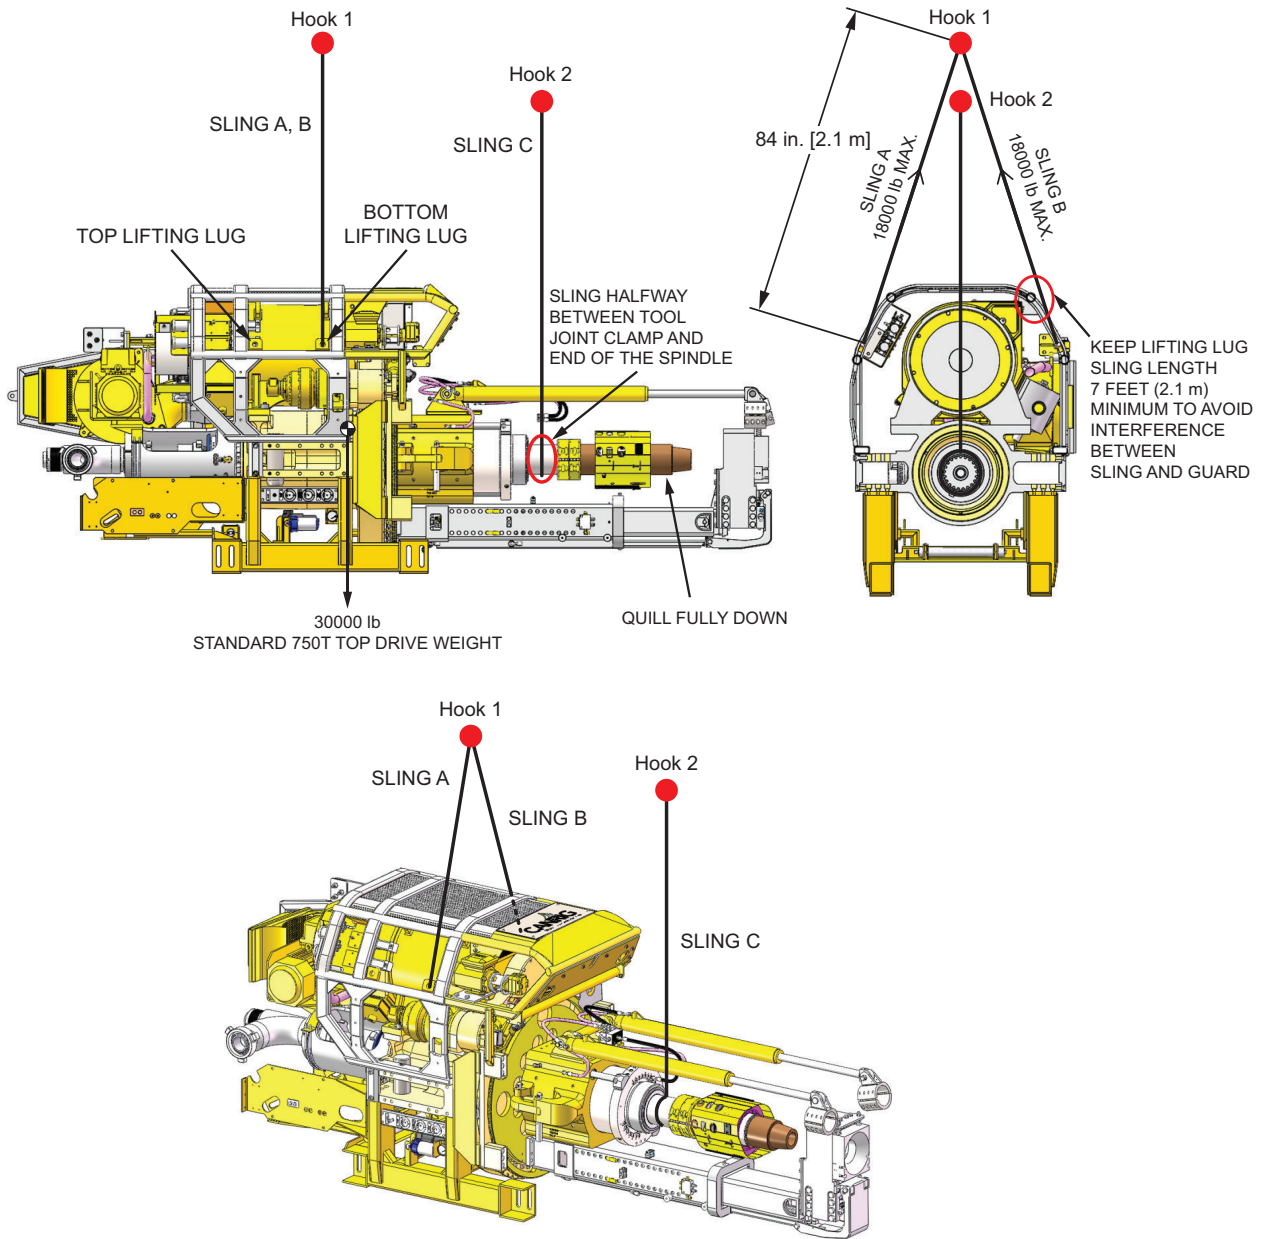

Figure 3B.5: Horizontal Lifting for Balanced Loads – Two Hooks (Bottom Lifting Lugs)
- Adjust the length or elevation of the strap on the quill (sling C) such that the top drive remains horizontal at all times while lifting. See Figure 3B.5.
This lifting configuration is considering using only one hook to lift the top drive while it is horizontal. In this case, one hook lifts the top drive using three slings (slings A, B, and C). See Figure 3B.6 for reference.